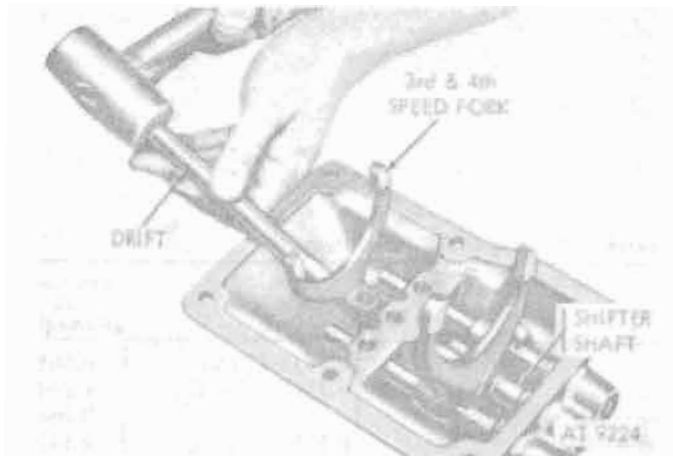

Figure 8-91. Driving third and fourth speed shifter shaft rearward.
c. Using a brass drift carefully drive third- and fourth-speed shifter shaft rearward until shifter fork is free (fig. 8-91).